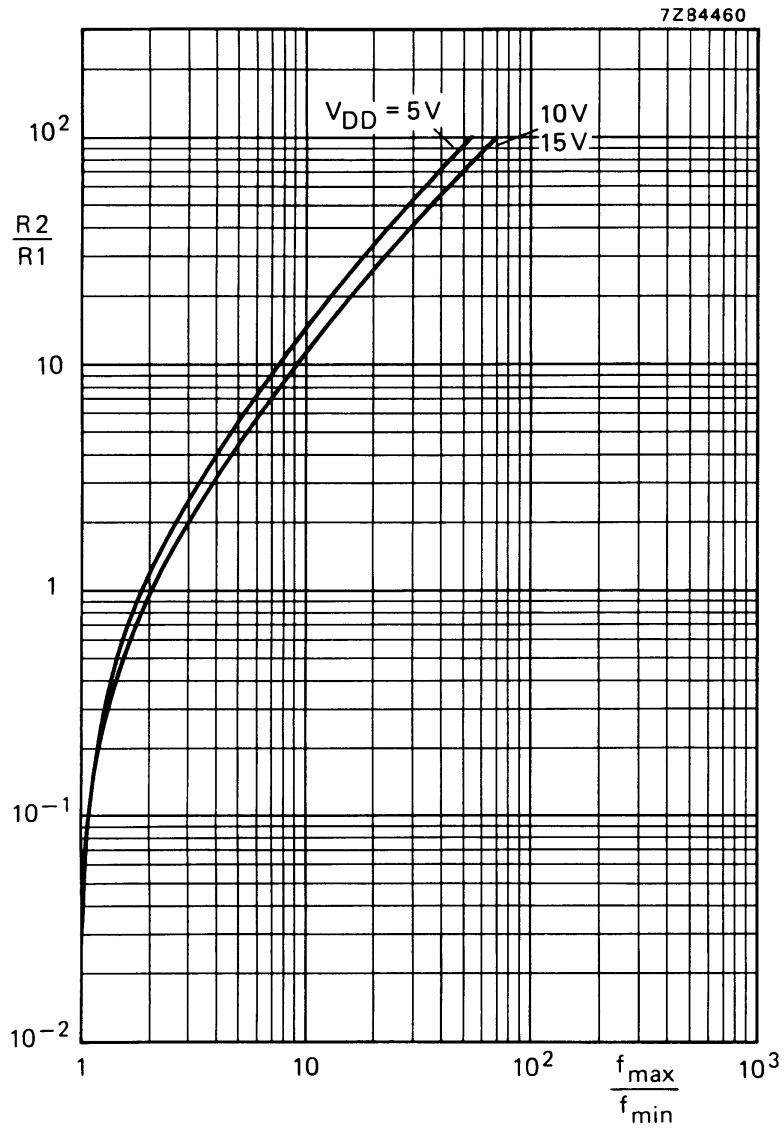

Fig.9 Typical ratio of R2/R1 as a function of the ratio  $f_{max}/f_{min}$ .
- a) Given  $f_o$  and  $f_L$ : calculate  $f_{min}$  from the equation  $f_{min} = f_o - f_L$ ; use  $f_{min}$  with Fig.8 to determine R2 and C1; calculate  $\frac{f_{max}}{f_{min}}$  from the equation  $\frac{f_{max}}{f_{min}} = \frac{f_o + f_L}{f_o - f_L}$ ; use  $\frac{f_{max}}{f_{min}}$  with Fig. 9 to determine the ratio R2/R1 to obtain R1.
- b) Given  $f_{min}$  and  $f_{max}$ : use  $f_{min}$  with Fig.8 to determine R2 and C1; calculate  $\frac{f_{max}}{f_{min}}$ ; use  $\frac{f_{max}}{f_{min}}$  with Fig.9 to determine R2/R1 to obtain R1.